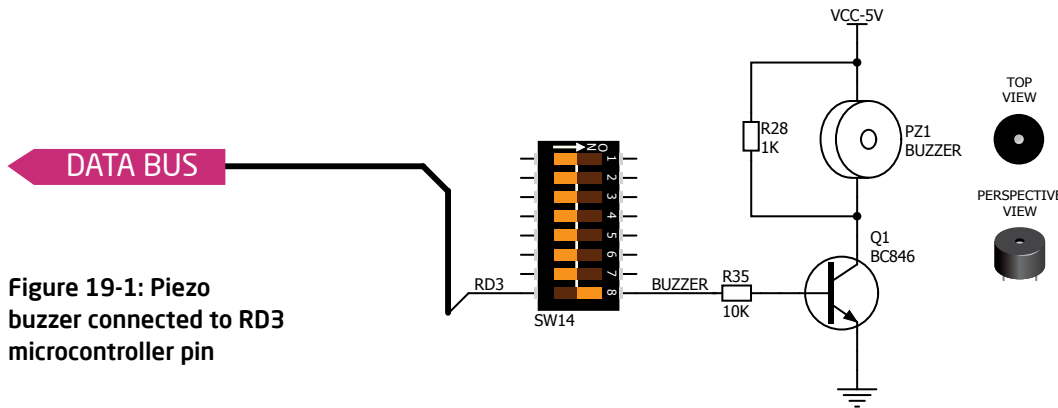

Figure 19-1: Piezo buzzer connected to RD3 microcontroller pin
**Piezoelectricity** is the charge which accumulates in certain solid materials in response to mechanical pressure, but also providing the charge to the piezo electric material causes it to physically deform. One of the most widely used applications of piezoelectricity is the production of sound generators, called piezo buzzers. **Piezo buzzer** is an electric component that comes in different shapes and sizes, which can be used to create sound waves when provided with analog electrical signal. EasyPIC Fusion™ v7 comes with piezo buzzer which can be connected to **RD3** microcontroller pin. Connection is established using **SW14.8** DIP switch. Buzzer is driven by transistor **Q1 (Figure 19-1)**. Microcontrollers can create sound by generating a PWM (Pulse Width Modulated) signal - a **square wave** signal, which is nothing more than a sequence of logic zeros and